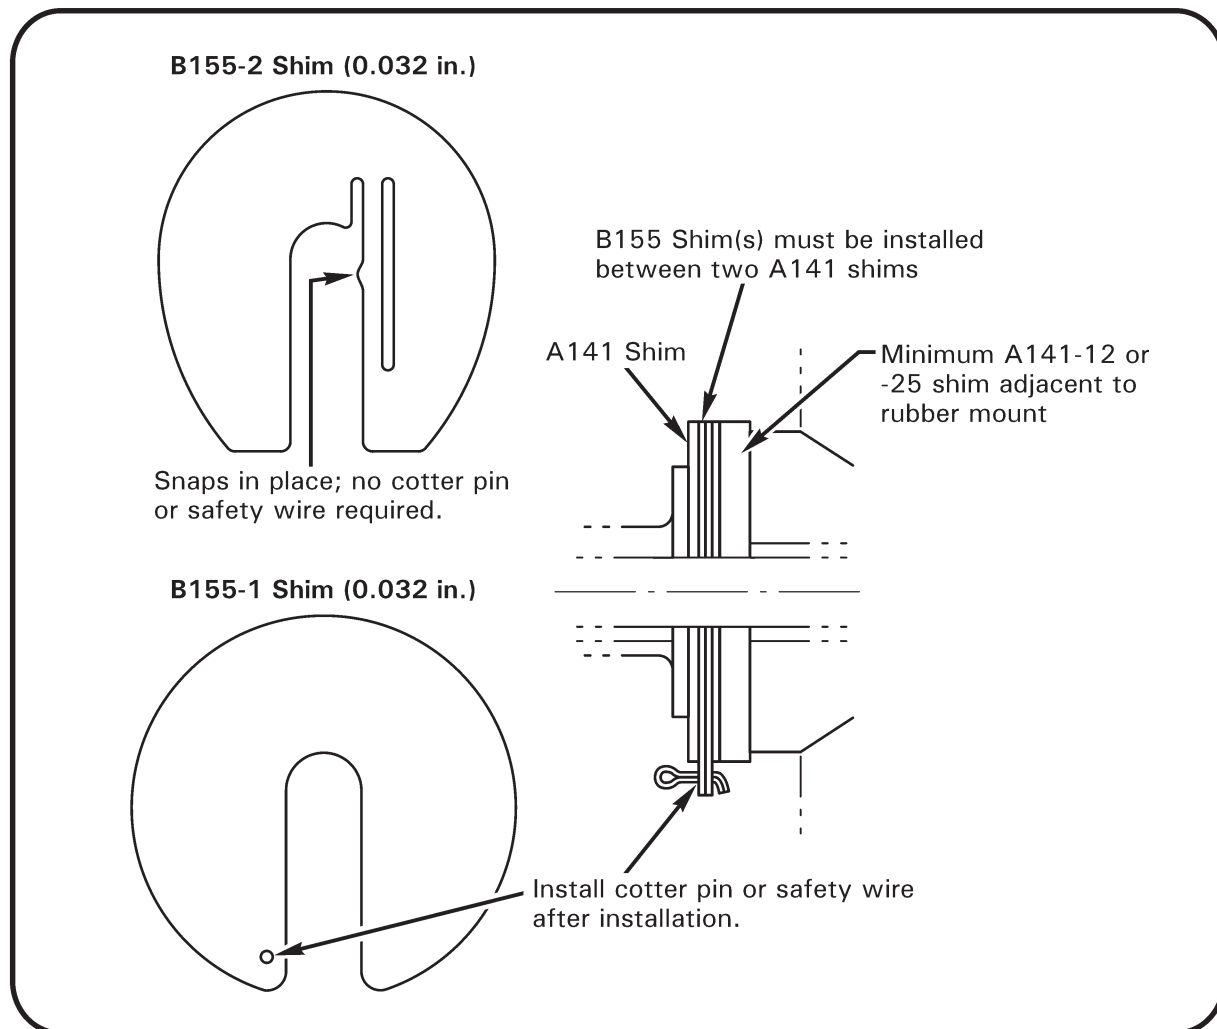

FIGURE 6-2A B155 ENGINE SHIM
5. Loosen upper-left and lower-left engine mount bolts. Leaving right engine mounts torqued, install selected shim(s) between lower-left frame and lower-left engine mount pad. Slotted shims, if used, may be stacked together but must be installed between unslotted shims and safetied. See Figure 6-2A.
Add shim washers A141-12 (0.190 inch), A141-24 (0.032 inch), B155 (0.032 inch), A141-25 (0.063 inch) as required to shim engine. B155 shims, if used, shall be between A141 washers (ref. Figure 6-2A).